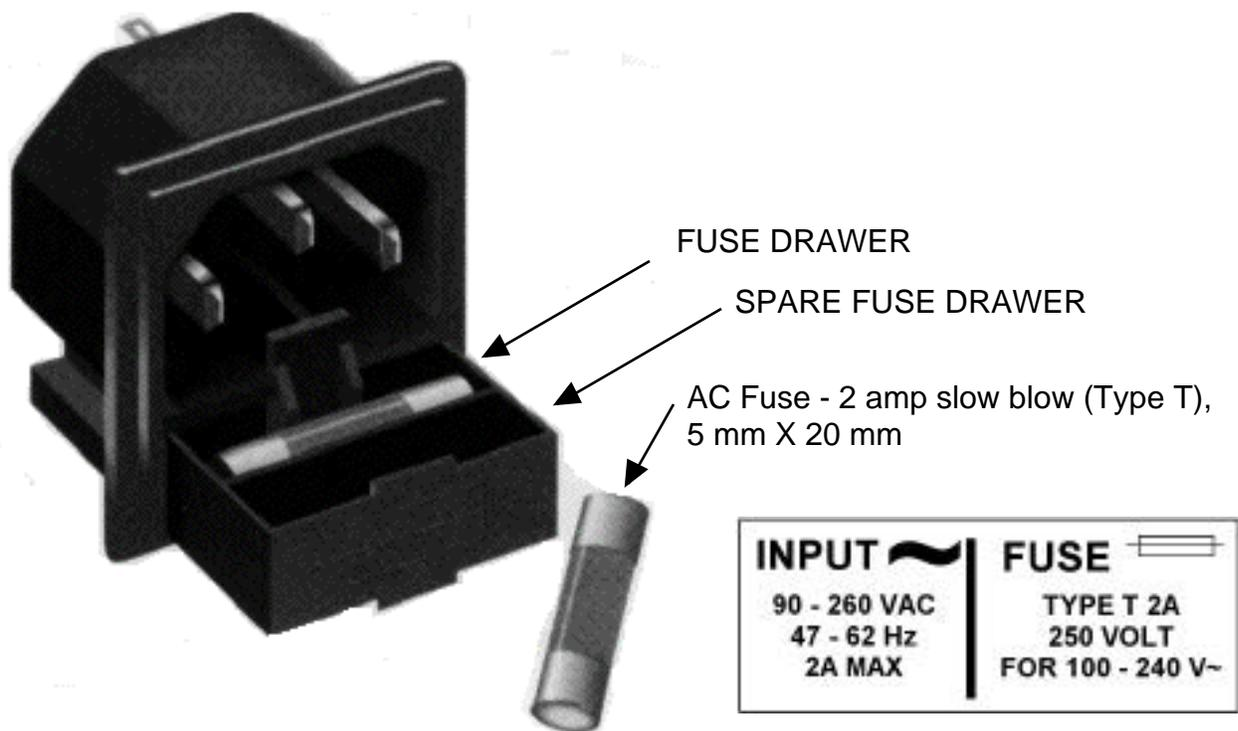

FIGURE 2.3 Fuse Location and Spare Fuse
- 7.) **AC Fuse** - The fuse is a 5 mm X 20 mm, 2 amp slow blow (Type T) and is inserted in the far slot in the drawer below the AC input as shown in Figure 2.3. There is a spare fuse in the near slot. If a fuse continues to open, the power supply is most likely defective.